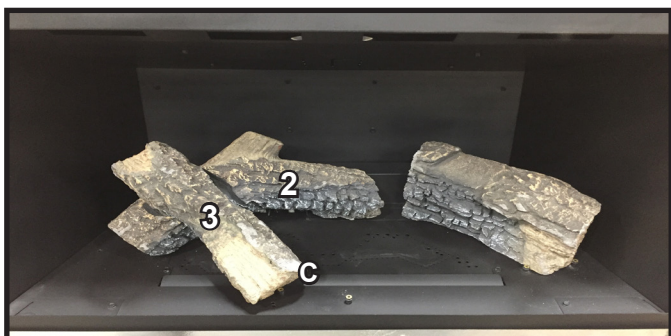

Figure 5 Log #3 Installed
**LOG #3:** With the larger split area towards the front of the firebox, place the center of the end of log #3 against pin C and place the other end of the log on the flat spot of log #2. See Figure 5.